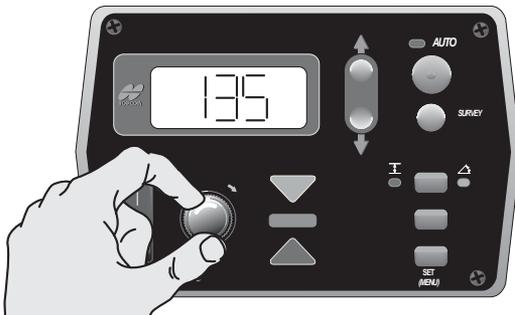

Figure 4-32. Setting the Lower Valve Offset Value
4. Turn the Grade Adjustment Knob counter-clockwise, decreasing the valve offset value until the hydraulic cylinder no longer moves. Then slowly rotate the Grade Adjustment Knob clockwise until the hydraulic cylinder just begins to move down (Figure 4-32).